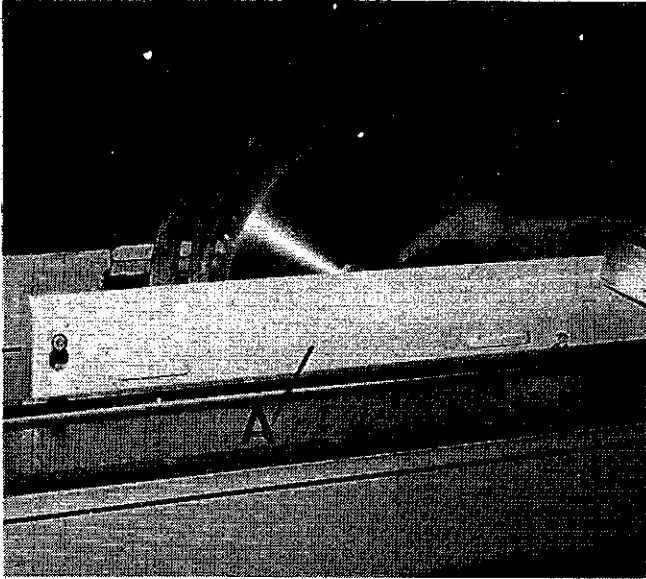

FIG. 37.
3. Lift and remove under table sawguard "A", FIG.37.